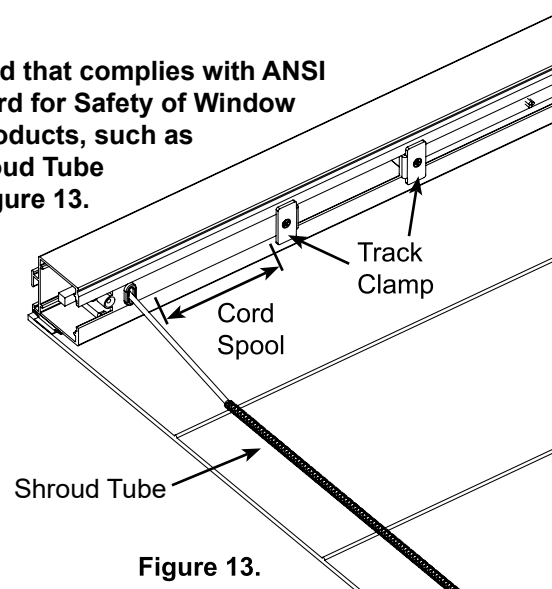

Figure 13.
Step 10. See **Figure 13**. Adjust the position of the Cord Spool so the Cord Opening lines up directly with the Lift Cord position on your fabric. Once they are in position, use a small Phillips screwdriver and tighten the Track Clamps on the Cord Spools and Motor. Make sure not to overtighten. Thread the Lift Cords through your preferred attachment method on the fabric.
Use a method that complies with ANSI 2018 Standard for Safety of Window Covering Products, such as Rowley Shroud Tube shown in **Figure 13**.